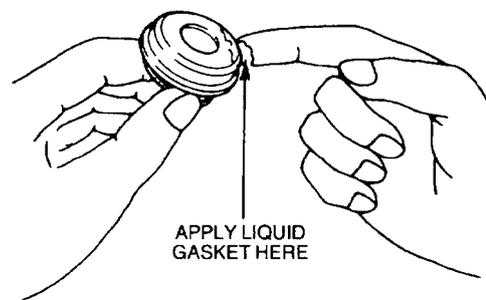

Figure 63 Installing the Water Pump Housing Seals
- c. Apply liquid gasket compound to the contact surfaces of the new seals (Figure 63) and press the seals into the housing.